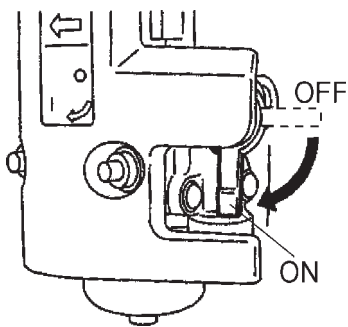

Figure 11. Engine Fuel Valve Lever (ON Position)
1. Place the engine **fuel valve lever** (Figure 11) to the "ON" position.